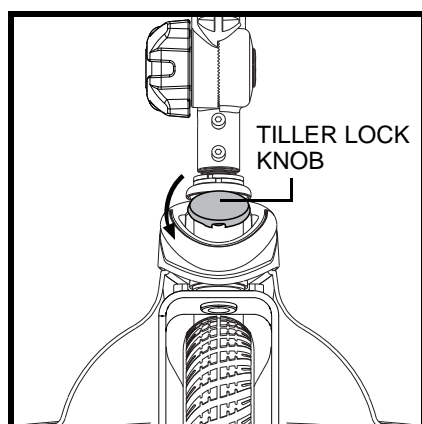

Figure 18. Tiller Lock Knob (Unlocked)
9. Unlock the front wheel by turning the tiller lock knob 90° counterclockwise. **See figure 18.**